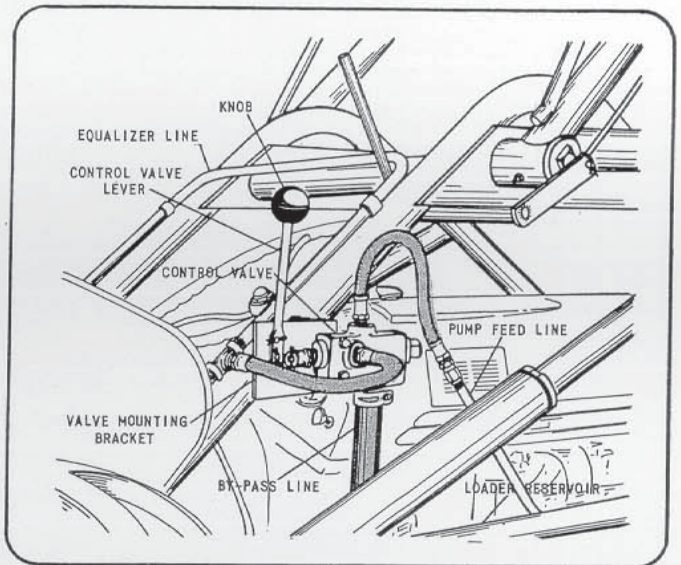

Figure 2 - Valve Installation - WM2 Only
1. Mount single acting control valve (Figure 2) to valve mounting bracket on right side of loader main frame.